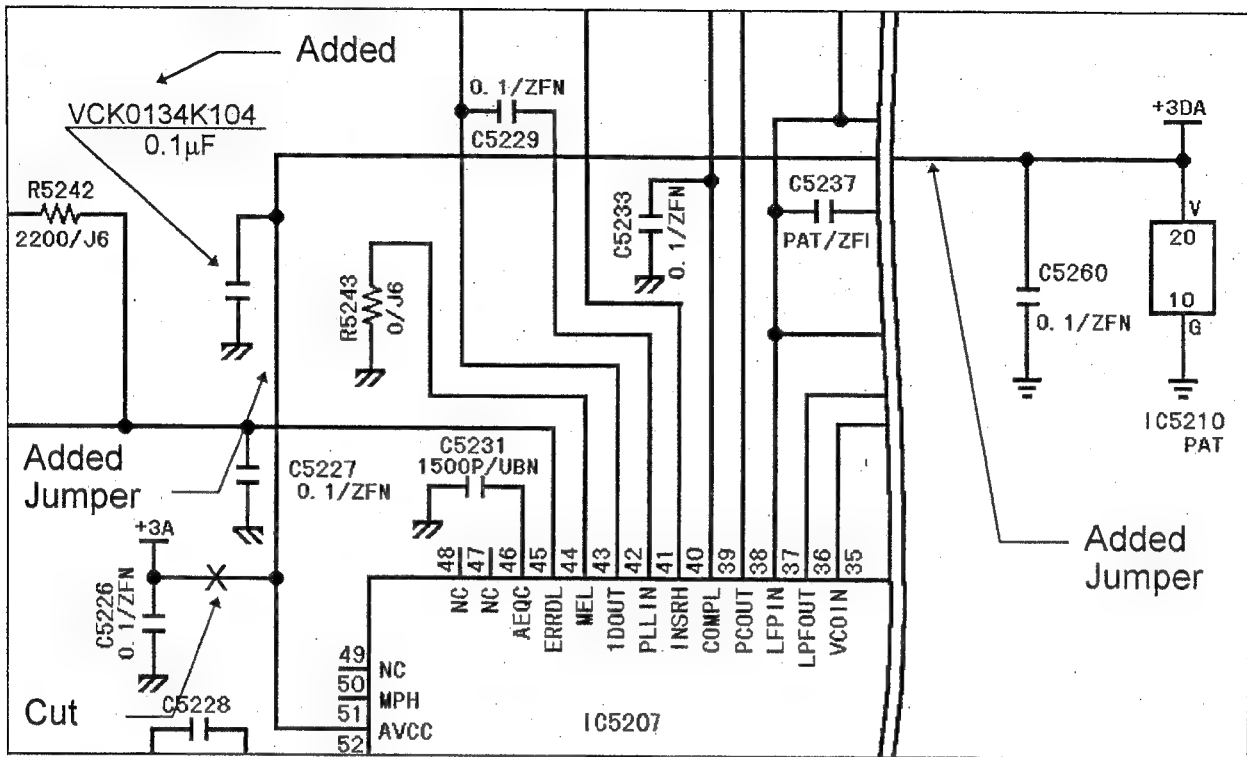

Fig 1 Page 2-167 (AJ-D750) / Page 2-129 (AJ-D650/D640)
- 1). Float the leg of pin #51 of IC5207 and adhere the insulation tape under it on the component side as shown in figures 1 and 2.
- 2). Install a new capacitor (0.1 $\mu$ F) between C5221 and pin #51 of IC5207 which floated on the component side as shown in figures 1 and 2.
- 3). Connect a jumper wire between pin #51 of IC5207 and pin #20 of IC5210 on the component side as shown in figures 1 and 2.